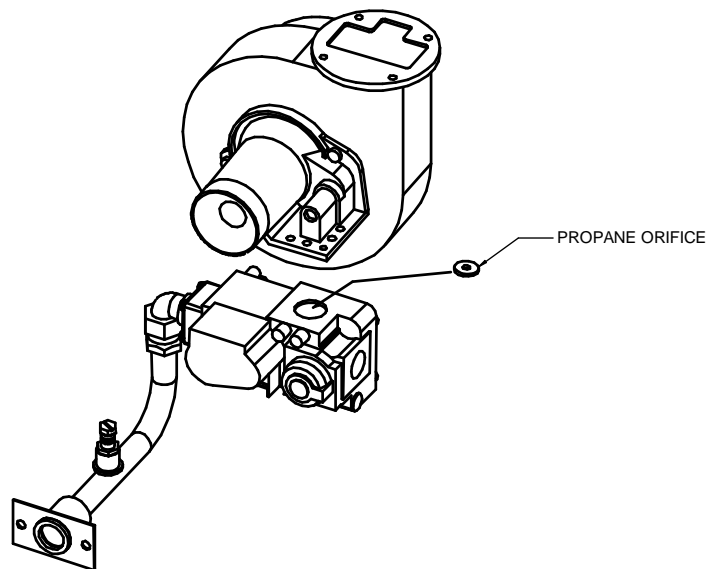

Fig 6
- Lower the valve enough to fit the supplied Propane orifice as shown in Fig 6.
- Lower the valve enough to remove the Propane orifice as shown in Fig 6.